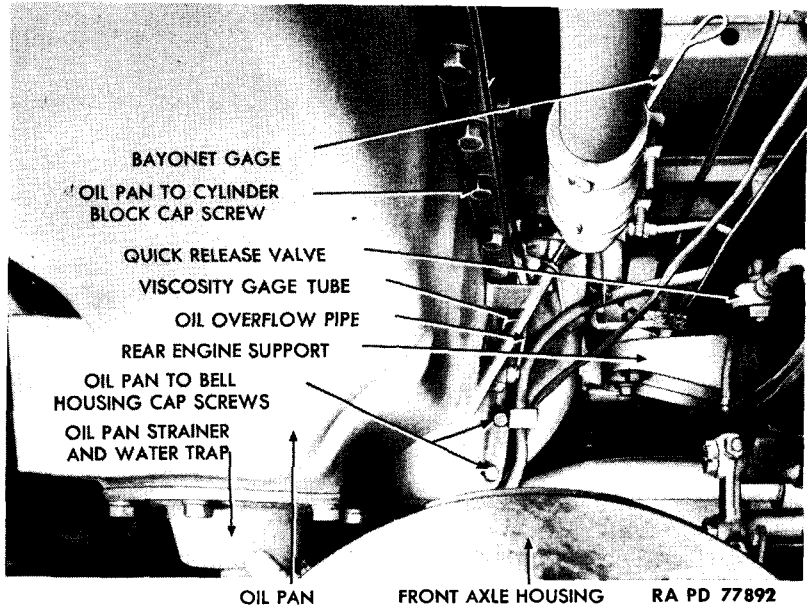
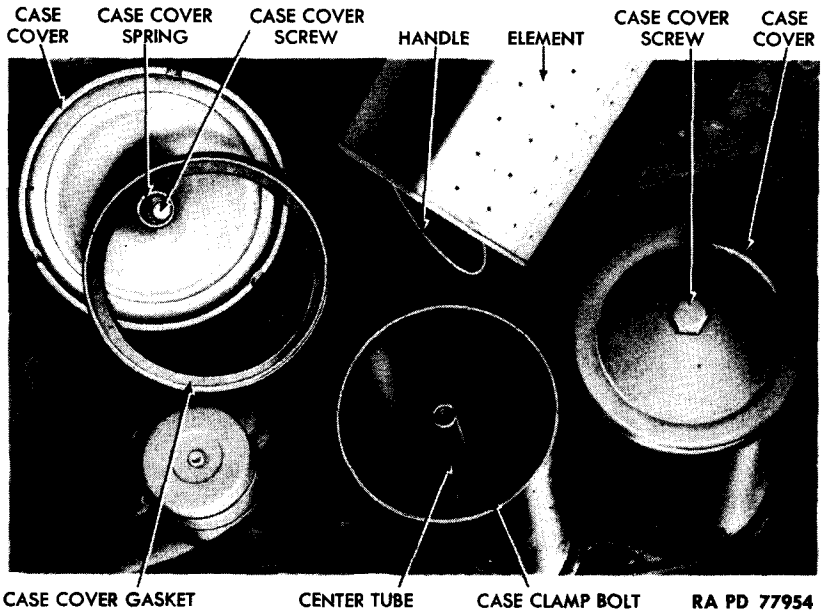
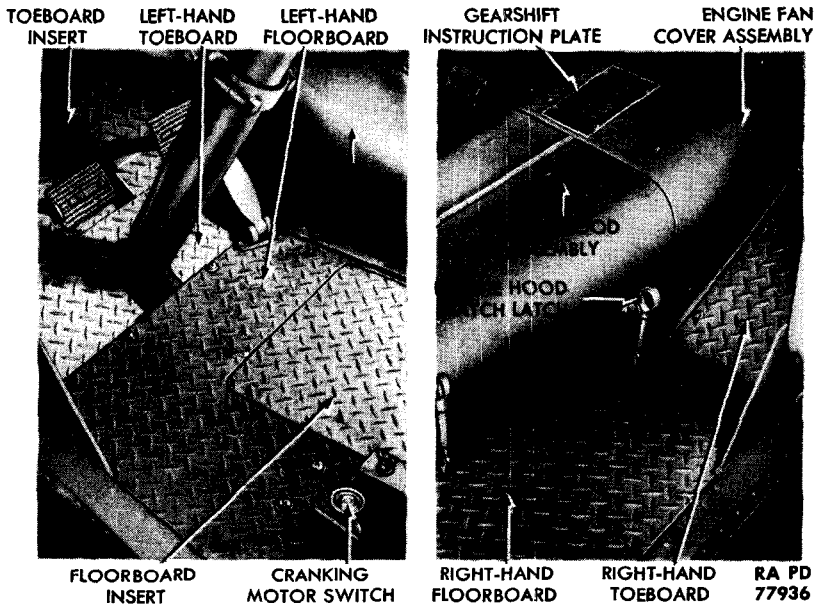

Figure 16 — Oil Pan Installed
Figure 17 — Oil Filters Partially Disassembled
Figure 19 – Floor Boards and Engine Hood
(1) **REMOVE ENGINE HOOD (fig. 19) (par. 48).**
(2) **REMOVE RIGHT-HAND FLOOR BOARD (fig. 19).** Remove the six screws and lock washers which attach floor board to cab, and lift floor board from cab.
(7) **INSTALL RIGHT-HAND FLOOR BOARD** (fig. 19). Position floor board in cab, and install the six lock washers and screws.
(8) **INSTALL ENGINE HOOD** (fig. 19) (par. 50).
(1) **DRAIN OIL** (fig. 16). Remove drain plug from center of oil pan strainer and water trap, and remove drain plug from rear of oil pan.
(2) **REMOVE STRAINER AND WATER TRAP** (fig. 16). Remove six cap screws and lock washers. Lift strainer, water trap, and gasket from oil pan.
(5) **INSTALL STRAINER AND WATER TRAP** (fig. 16). Inspect gasket, and replace if torn or crushed. Position serviceable gasket, strainer, and water trap assembly in oil pan. Install the six lock washers and cap screws.
(1) **REMOVE BAYONET GAGE.** Remove floor board insert (fig. 19), and pull bayonet gage (fig. 16) from its boss in oil pan.
(2) **DRAIN ENGINE OIL** (fig. 16). Remove drain plug and gasket from oil pan strainer and water trap. Remove drain plug and gasket from rear of oil pan.
(3) **DISCONNECT OIL OVERFLOW PIPE AND VISCOMETER GAGE TUBE** (fig. 16). Lines run from oil filter fitting on left side of oil pan. Unscrew both from fitting.
(4) **REMOVE OIL-PAN-TO-BELL-HOUSING CAP SCREWS** (fig. 16). Three are located on each side and one at lower center, each installed with a lock washer. Remove all.
(5) **REMOVE OIL-PAN-TO-CYLINDER-BLOCK CAP SCREWS** (fig. 16). There are 26 screws, each with a lock washer. Remove all screws.
(6) **REMOVE OIL PAN AND GASKETS** (fig. 16). Lower oil pan to floor, and remove the two side gaskets and front cork. **CAUTION: Do not damage or attempt to remove cork from bell housing.**
(2) **PLACE OIL PAN IN POSITION** (fig. 16). Position oil pan, using care to keep from dislodging gaskets, and install to crankcase with two cylinder block cap screws and lock washers. Tighten screws only fingertight, because their function is to hold oil pan in an approximately correct position.
(3) **INSTALL OIL-PAN-TO-BELL-HOUSING CAP SCREWS** (fig. 16). Tighten the seven screws, each assembled with a lock washer, alternately and securely.
(4) **INSTALL OIL-PAN-TO-CYLINDER-BLOCK CAP SCREWS** (fig. 16). Tighten the 26 screws, each assembled with lock washer, alternately and securely.
(5) **CONNECT OIL OVERFLOW PIPE AND VISCOMETER GAGE TUBE** (fig. 16). These lines run from fitting on left side of oil pan. Tighten both securely.
(6) **INSTALL BAYONET OIL GAGE** (fig. 16). Insert gage into its boss on left side of oil pan.
(9) **INSTALL FLOOR BOARD INSERT** (fig. 19). Position insert on left-hand floor board, and tighten the two wing screws which clamp it in place.
(3) REMOVE OIL FILTER ELEMENT (fig. 17). Remove floor board insert (fig. 19), and unscrew oil filter case cover screw. Lift cover and gasket from case. Grasp handle on top of oil filter element, and pull element from case.
(4) INSTALL OIL FILTER ELEMENT (fig. 17). Insert oil filter element, handle end up, into oil filter case. Place oil filter case cover
(1) **REMOVE FLOOR BOARD INSERT** (fig. 19). Loosen the two wing screws which clamp insert in place, and lift insert from floor board.
(6) **INSTALL FLOOR BOARD INSERT** (fig. 19). Position insert on floor board, and secure with two wing screws.
e. **Remove Engine Hood** (fig. 19). Remove the three screws, flat washers, and lock washers which secure left-hand side of hood to floor board frame. Disengage the two latches on right-hand side of hood.
f. **Remove Toeboards and Floor Boards** (fig. 19). Remove the 20 screws, 4 flat washers, 4 toothed lock washers, and 9 lock washers which secure toeboards and floor boards to cab frame. Lift out toeboards and floor boards.